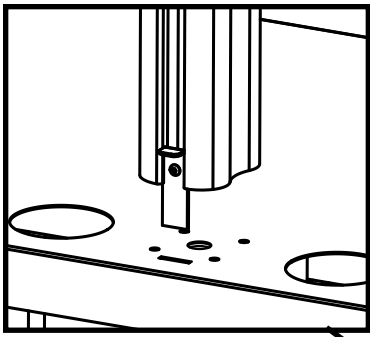

FIGURE 6
Attach pole to top shelf. Align pole over holes in top shelf as shown in **FIGURE 6**. Secure from **UNDERNEATH** with screw (EE), washer (FF), screws (GG) and washers (HH) as shown in **FIGURE 7**.